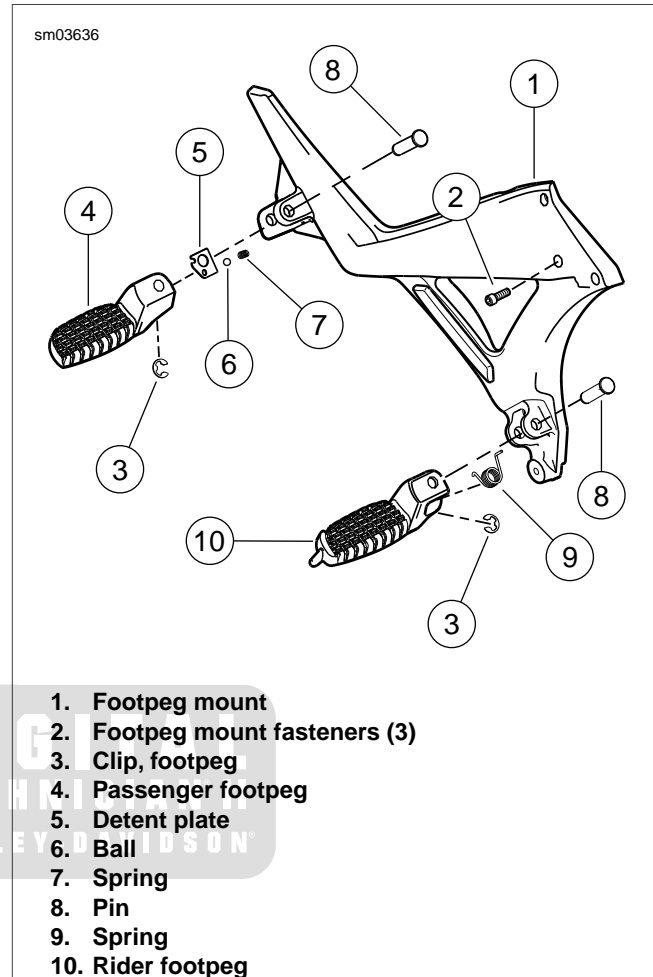

Figure 2-157. Rider Footpeg, Mount and Heel Guard Assembly: Ulysses
1. See Figure 2-157. Remove clip (3).
2. Remove footpeg pin (8).
3. Remove footpeg (10) and spring (9).
1. See Figure 2-157. Fit spring ends to footpeg mount and footpeg.
2. Hold footpeg (10), controlling spring, to footpeg mount (1).
3. Install footpeg pin (8) through mount, spring and footpeg.
4. Install clip (3).